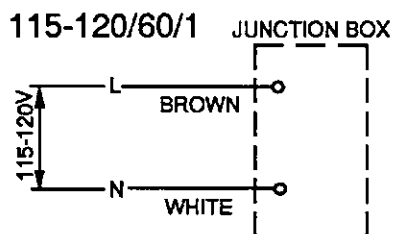

Fig. 9
- * A WHITE lead must be connected to the neutral conductor of the power source. Miswiring results in severe damage to the icemaker. See Fig. 9.